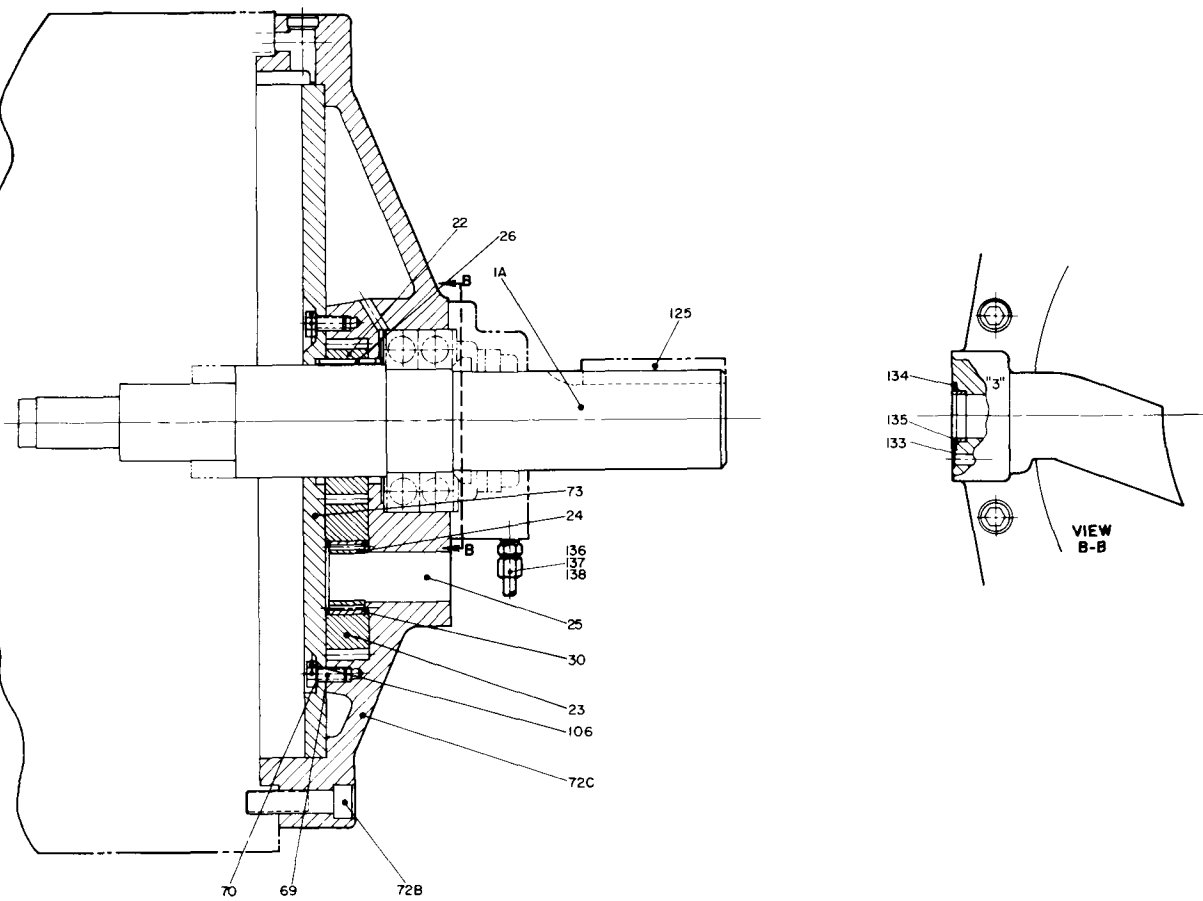

Figure 14. Optional Gear Pump. (508644)
See Figure 14. With Gear Pump — Place gears (22 & 23) into respective pockets of housing (72C). Position cover (73) and gaskets (70) onto housing and secure with cover screws (69). Reinstall lock wire (106) through all screw heads. Reinstall driveshaft (1A) being certain to line up key (26) with keyway in drive gear (22). NOTE: Gear (22) must be sliding fit over shaft and key. Install washer (4) and nut (3), then screws (71A). Reinstall drive key (125).